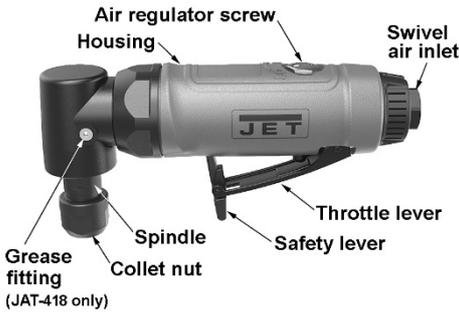

Figure 1 (JAT-418 shown)
1. Loosen collet nut using the two wrenches on the flats of the collet nut and spindle (Figure 1). Keep wrench on spindle stationary while turning wrench on collet nut.
3. Remove protective cap from air inlet (Figure 1). If an in-line oiler is not being used, add 4 or 5 drops of air tool oil (not included) in to the air inlet.